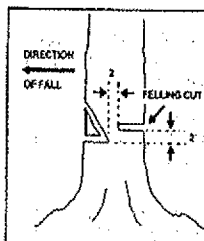

Figure 19
- Make the notch cut. Figure 19.